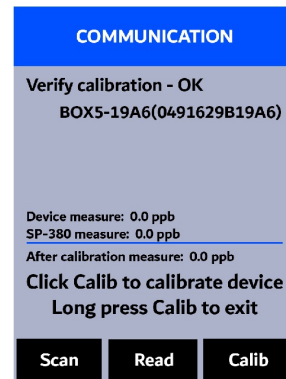

Figure 22.
14. If the calibration is successful, a "Verify calibration - OK" message will appear on the top of the display (Figure 22).